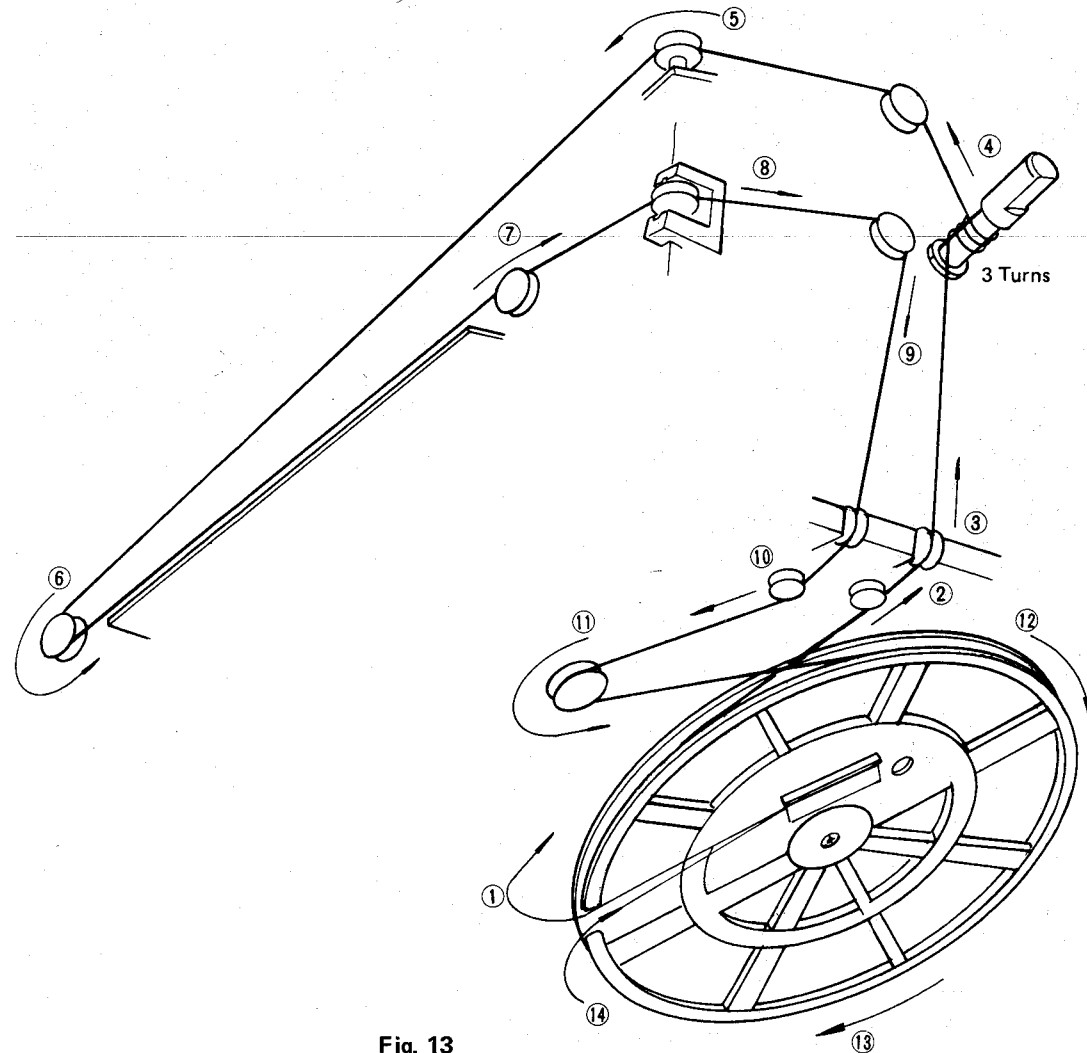

Fig. 13
3. Arrows (① - ⑭) indicate correct order and indication of dial threading as shown in Fig. 13.